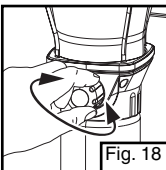

Fig. 18
- Brightness may be adjusted with fuel valve. (Fig. 18)